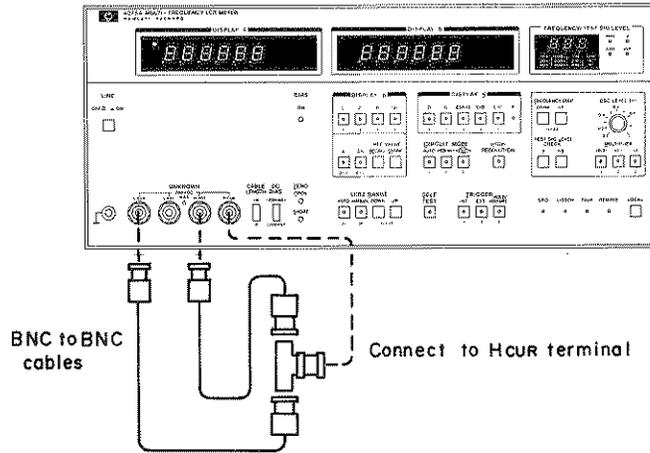

Figure 5-7. Process Amplifier Gain Adjustment Setup.
1. Connect BNC cables and a BNC Tee adapter as illustrated in Figure 5-7.